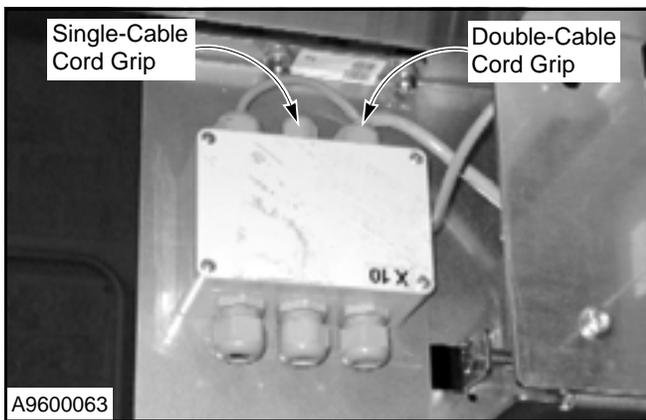

Figure 66
- Remove the junction box cover and save the hardware for later use. Then pass the cable through the double-cable cord grip on the side of the junction box. Do not tighten the cord grip at this time. (See Figure 66.)
- Pass the second photo eye cable through the double-cable cord grip. Tighten the cord grip to lock both photo eye cables to the junction box. (See Figure 66.)